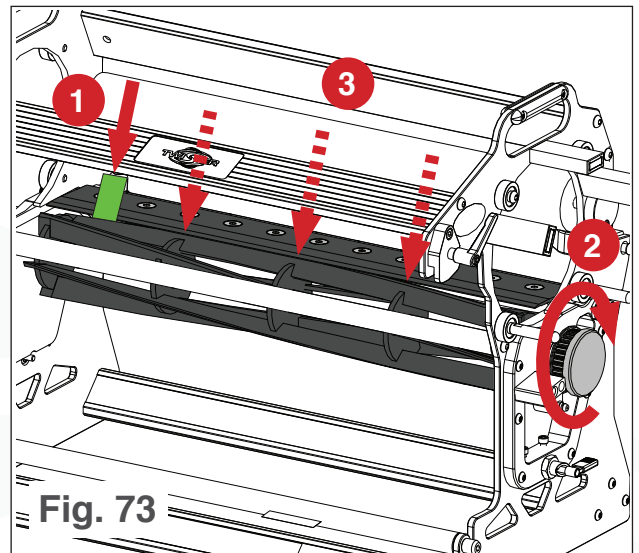

Fig. 73
- a. Insert a piece of paper between the helix blade and the bed knife, manually rotate the blade pulley to ensure the helix blade cuts the paper like a pair of scissors (see Fig. 73).
- b. Repeat step a at several points along the length of the bed knife (see Fig. 73). If the helix blade does not cut the paper, the bed knife needs to be adjusted (see **Bed Knife Adjustments** on page 46).